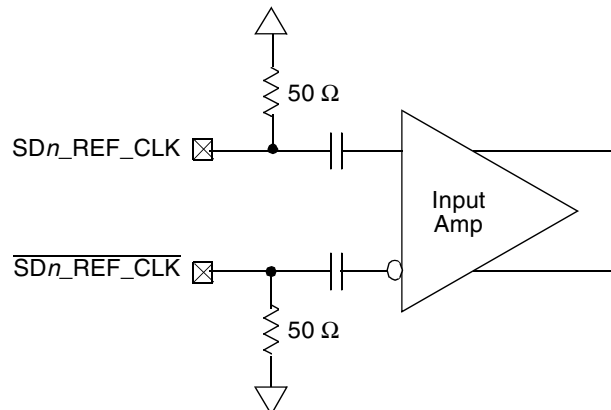

Figure 44. Receiver of SerDes Reference Clocks
Figure 44 shows a receiver reference diagram of the SerDes reference clocks. Characteristics are as follows:
- The SDn_REF_CLK and $\overline{\text{SDn_REF_CLK}}$ are internally AC-coupled differential inputs as shown in Figure 44. Each differential clock input (SDn_REF_CLK or $\overline{\text{SDn_REF_CLK}}$) has on-chip 50- Ω termination to SGND_SRDSn (xcorevss) followed by on-chip AC-coupling.